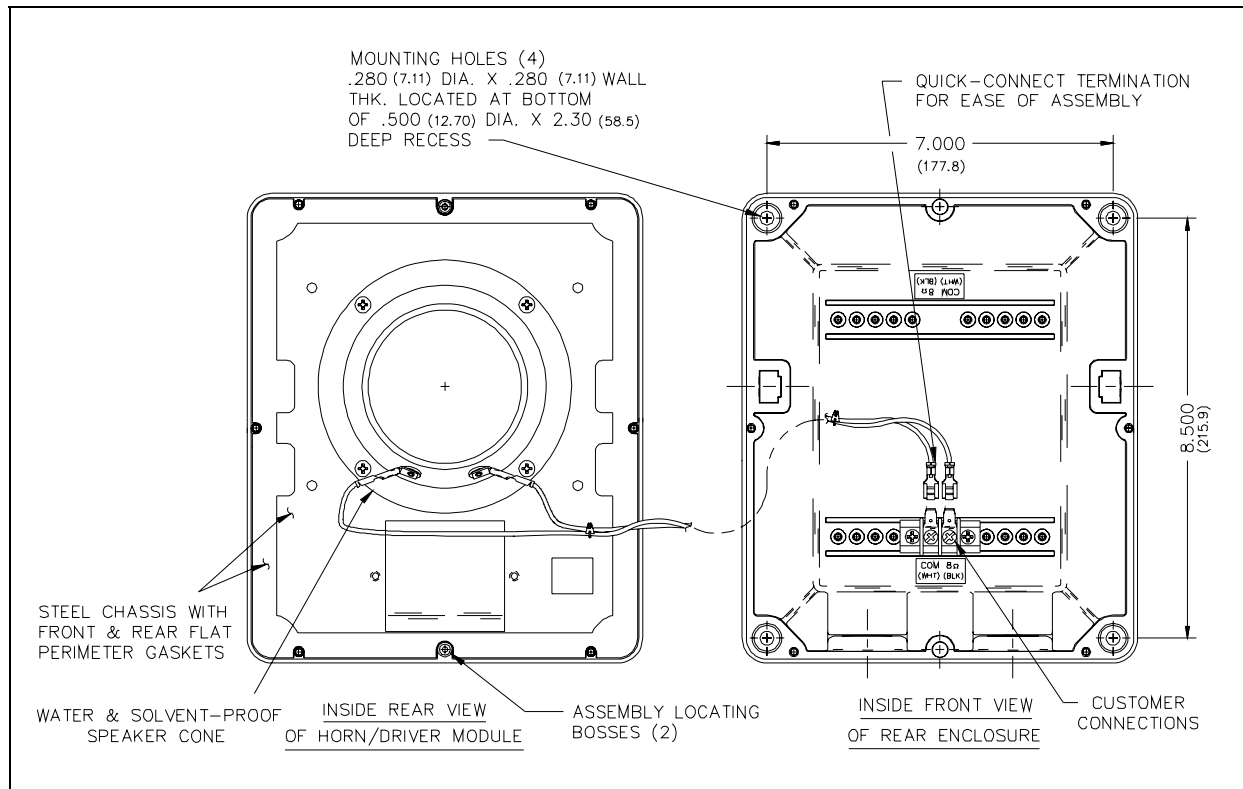

Figure 2. Model 13350 Loudspeaker Wiring
2. There are four 0.280-inch mounting holes located in the four corners of the enclosure. Refer to Figure 2 or 3 for mounting details.
After connecting the conduit to the enclosure, connect the speaker wire to the appropriate terminal blocks. Refer to Figure 2. Then plug the “quick connect” terminals from the front section of the speaker into the appropriate terminal blocks. Close the speaker and tighten front panel screws to 16 to 20 in-lbs. torque.